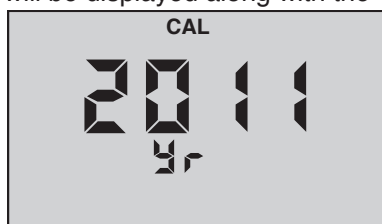

Figure 13
3. Press  $\frac{\text{CAL}}{\text{MCLR}}$  to initiate. “CAL” will be displayed along with the YEAR (see Figure 13).